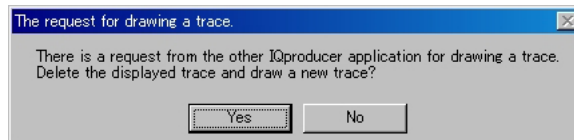

Figure 3.1.7-4 Confirmation message
2. Select **[FFT]** from the **[Simulation]** menu or click the  tool button. The confirmation message shown in Figure 3.1.7-4 below appears: